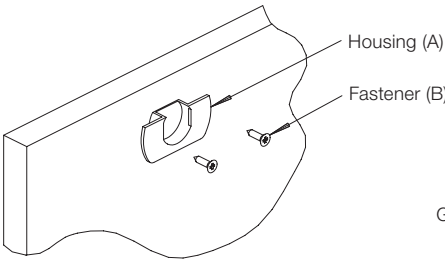

Figure 2
1. (If not factory installed) Fasten the housings (A) to the back of doors into the factory drilled pockets using fastener (B). (Fig. 2)